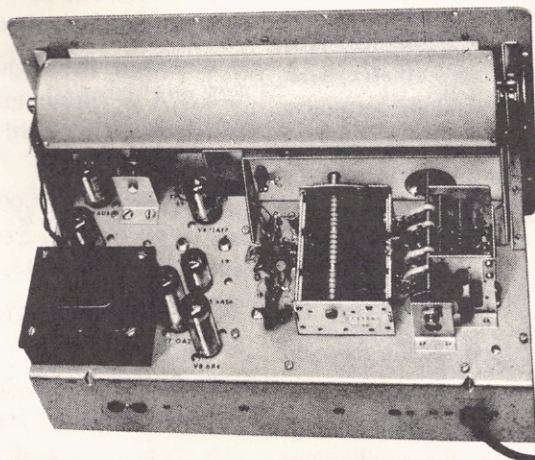

Figure 14. Locations of tubes and internal adjustments in WR-99A.
3. With an insulated alignment tool, turn the slug in inductor L9 until about one-quarter inch protrudes from the coil form. (See Figure 14 for locations of internal adjustments.)